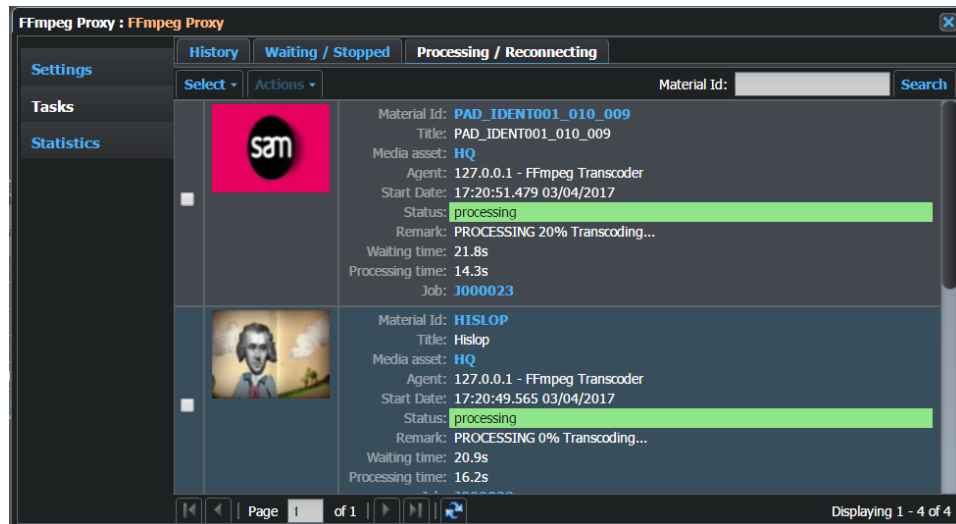
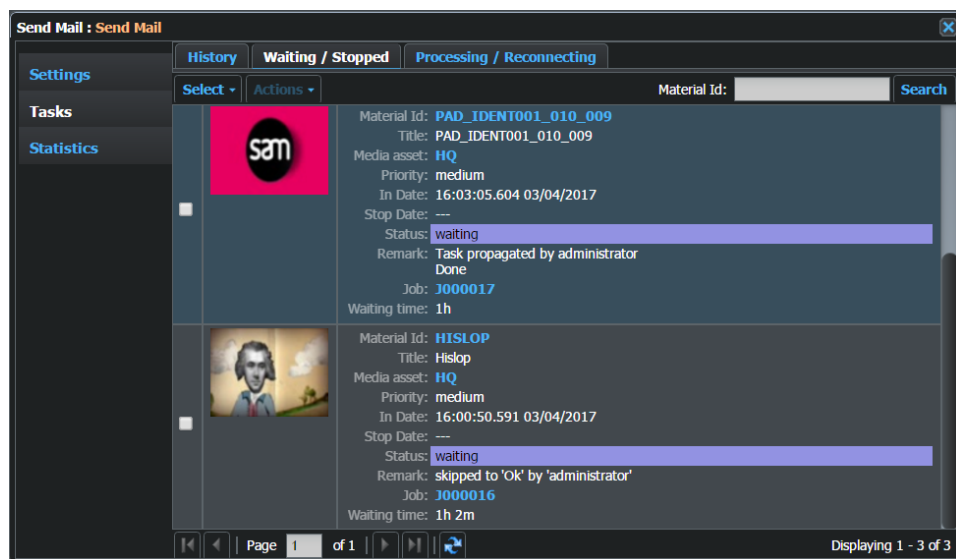

Fig. 10-204: Workflow Element Processing/Reconnecting Tasks Tab
Fig. 10-205: Workflow Element Waiting/Stopped Tasks Tab
- 4 Click the **Waiting / Stopped** or **Processing / Reconnecting** tabs, see Figure 10-204 and Figure 10-205.